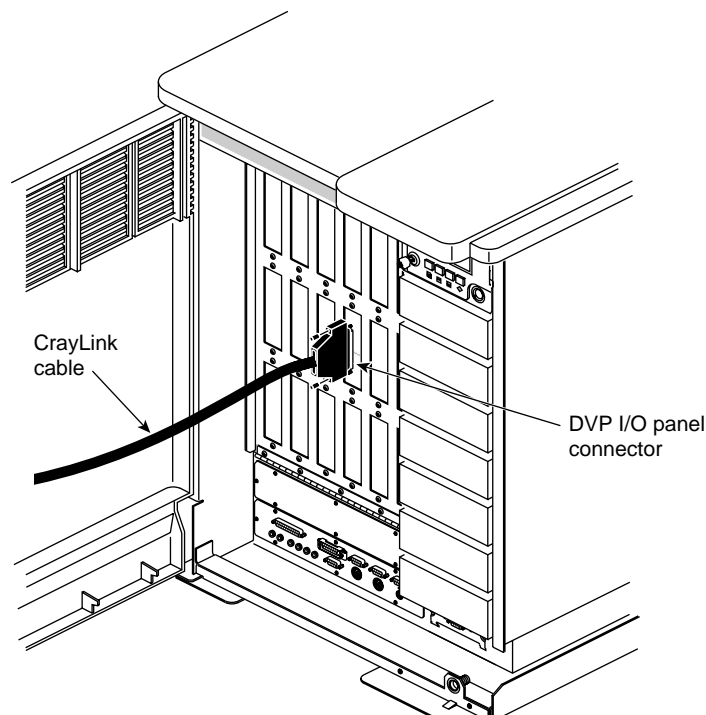

Figure 2-5 Connecting the CrayLink Cable
5. Attach the external CrayLink cable to the DVP I/O panel connector, as shown in Figure 2-5.